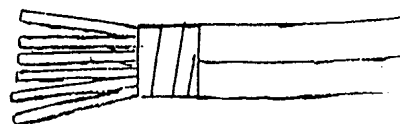

FIGURE 8.
3. Tape together the two pieces of leadwire about 4" from the ends with 2 or 3 turns of electrical friction tape as shown in **Figure 8**.